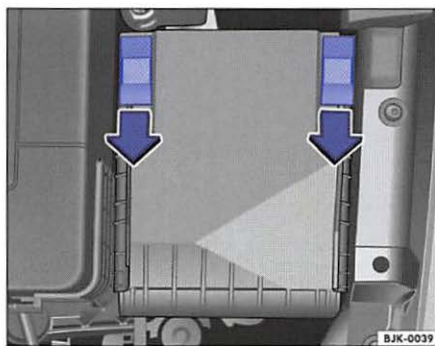

Fig. 33 In the engine compartment: cover of fuse box B
- Press the release tabs ⇒fig. 33 (arrows) to release the fuse box cover.